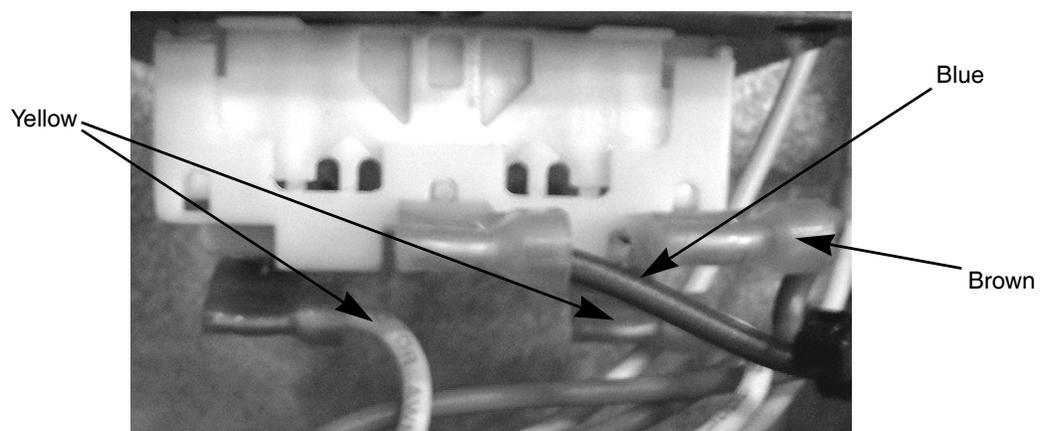

Figure 2. Transformer Lead Colors
2. Remove the blue lead, brown lead, and two (2) yellow leads from transformer to be replaced (see Figure 2).